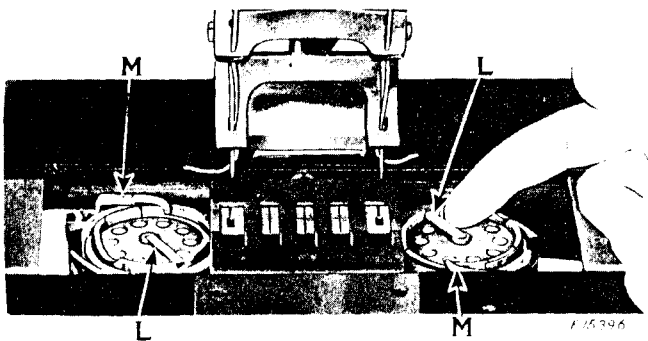

Fig. 7. Removing the Bobbin
Draw back the slide plates in the bed of the machine and turn the machine pulley until the bobbin case openers (M, Fig. 7) move clear of the bobbins. With the forefinger or a screwdriver, raise the latches (L) to a vertical position and lift out the bobbins.